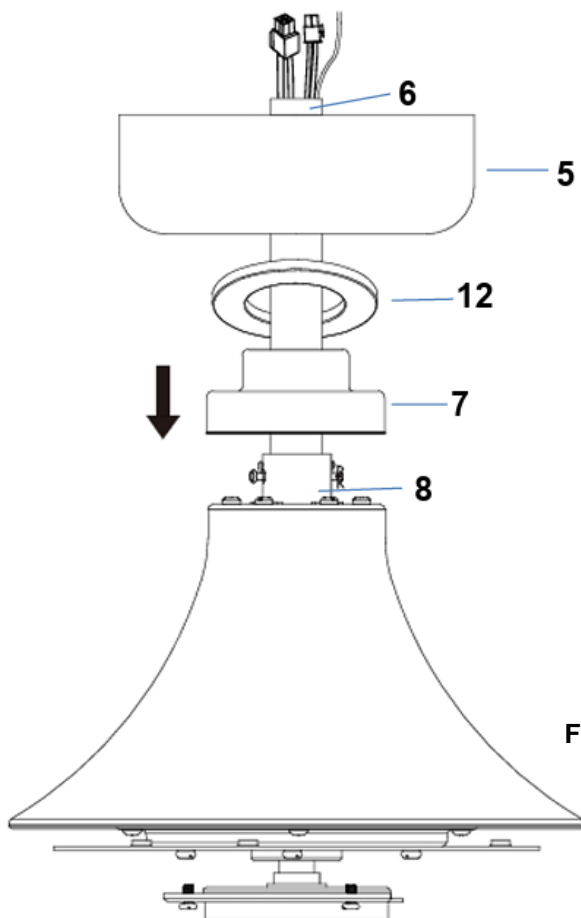

Fig. 4.5
6. Insert the bolt and pin cover (7) onto the down rod (6) to cover the down rod coupling housing (8). (Fig. 4.5)
7. Insert the canopy cover (12) & canopy (5) over the down rod (6) and install the ball joint (2) and dowel pin (3) back onto the down rod (6) and secure by tightening the set screws (4). (Fig. 4.5& Fig.4.6)